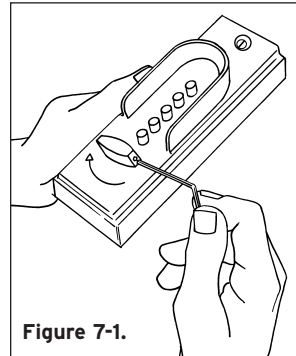
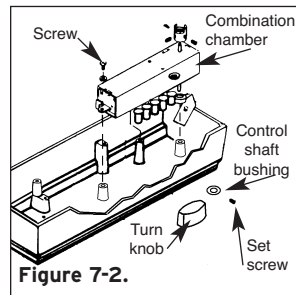
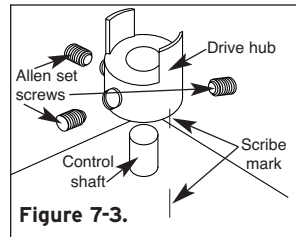

Figure 7-1.
Figure 7-2.
Figure 7-3.
- 3) Use a  $\frac{1}{16}$ " Allen wrench to loosen the set screw securing the turn knob (see **Figure 7-1**). Remove the turn knob and bushing (see **Figure 7-2**).
Before going to Step 4, scribe a mark on the drive hub and combination chamber cover to aid in reassembling the drive hub to its original position (See **Figure 7-3**).
- 4) Using the  $\frac{5}{64}$ " Allen wrench provided, remove the three Allen set screws from the drive hub so you can remove the drive hub from the back side of the combination chamber (see **Figure 7-3**).
- 6) Remove the two screws securing the combination chamber, then remove the chamber from the front lock assembly (see **Figure 7-2**).
- 20) Place the drive hub on the control shaft and insert the three Allen screws and secure **(see Figure 7-3)**. Place the combination chamber into the front lock assembly and attach it with the two screws **(see Figure 7-2)**.
- 21) Place the bushing and turn knob back on the chamber shaft and tighten securely **(see Figure 7-2)**